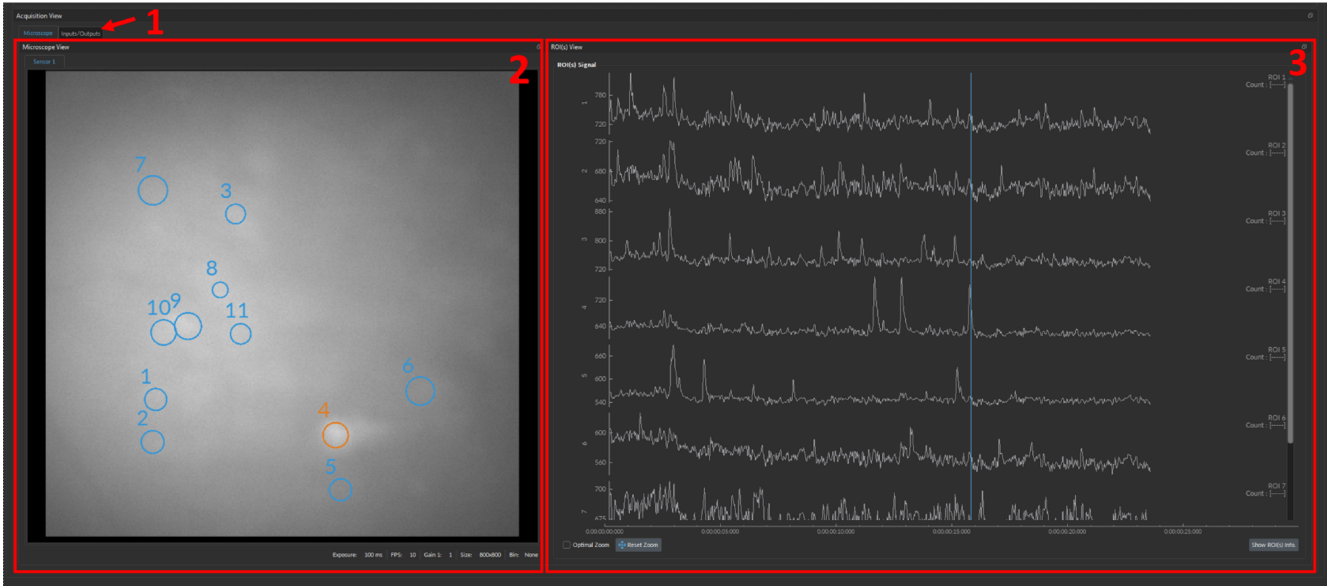

Figure 8.27: Acquisition View
The **Acquisition View** is split into three sections (Fig. 8.27):
1. The **Input / Output View** (Fig. 8.27, 1) - Section 8.5.1
2. The **Microscope View** (Fig. 8.27, 2) - Section 8.5.2.
3. The **ROI(s) View** (Fig. 8.27, 3) - Section 8.5.3.